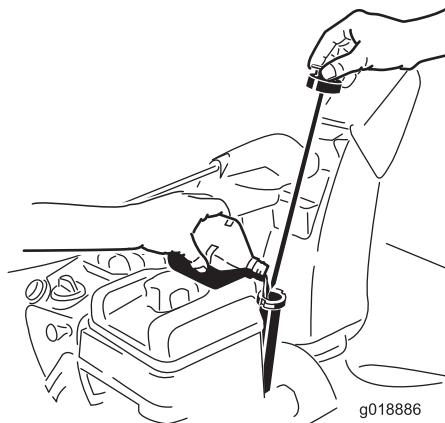

Figure 35
- Remove the dipstick and check the oil level (Figure 35). If the oil level is below the Add mark on the dipstick, add oil. Refer to Filling the Engine with Oil.